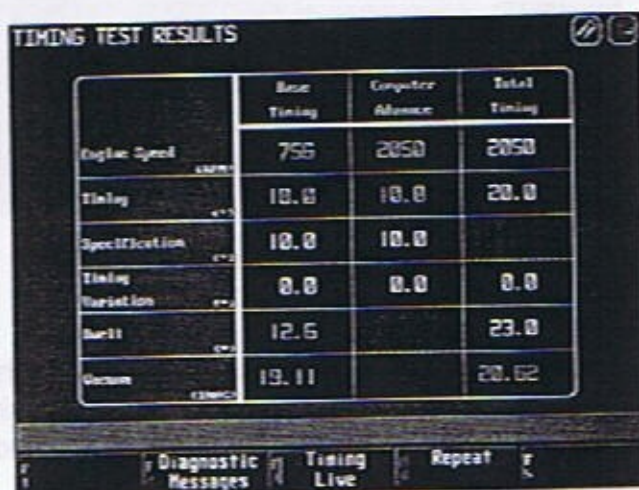

Figure 3-33
- [F2] – to display the *Results* screen (see Figure 3-33);